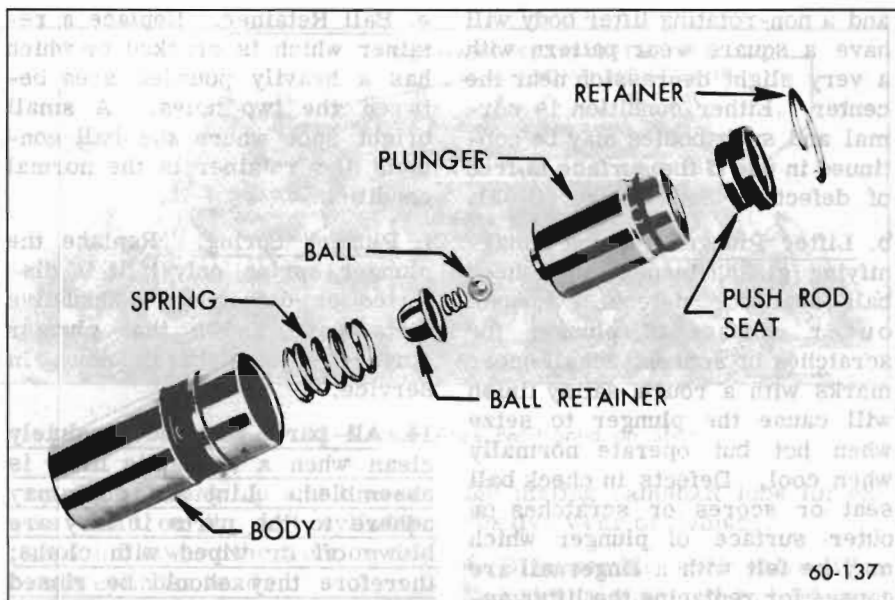

Figure 60-322—Hydraulic Valve Lifter Parts
15. Hold plunger in vertical position with feed hole up, then rinse and install the check ball, ball retainer, spring, and body over the plunger. See parts in Figure 60-322.